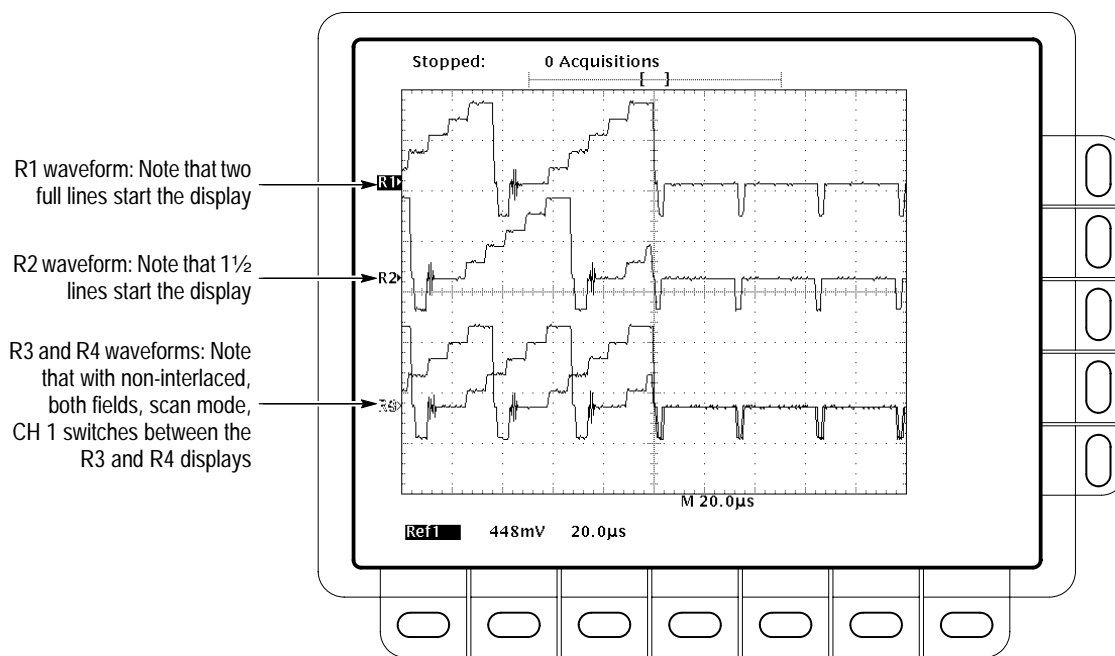

Figure 1–20: Measurement of Video Sensitivity
- CHECK that a stable trigger is obtained with the last of TV field 1 and the beginning of TV field 2 displayed. (If the last line is $\frac{1}{2}$ of a TV line duration ($31.75 \mu\text{s}$), then it is the end of field 1 — see waveform R2 in Figure 1–20.)
- CHECK that a stable trigger is obtained while alternating between field 1 and field 2. (If the last line is alternating between a full TV line and $\frac{1}{2}$ a line in duration ($63.5 \mu\text{s}$ and $31.75 \mu\text{s}$ respectively), then triggering is occurring on both fields — see waveforms R3 and R4 in Figure 1–20.)